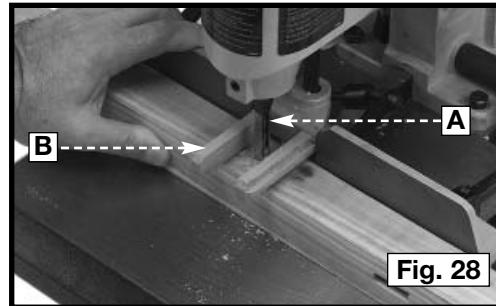

Fig. 28
2. Fig. 28 illustrates a typical mortising operation. Note that the opening (A) in the chisel is to the right. Move your workpiece from left to right for subsequent cuts to allow chips to escape freely.
3. Hold the workpiece firmly against the fence. Ensure that the hold-down (B) Fig. 28 is properly adjusted. The rate of penetration of the chisel must be fast enough to prevent burning at the tip of the bit, but not too fast as to stall the motor. You may encounter smoke from the bit or the workpiece. The smoke created is a natural operating occurrence, caused by friction and the burning of resins. Bluing of the chisel after initial use is not indicative of a dull chisel, but rather is a combination of friction and built-up resin on the cutting face of the chisel. A dull chisel can be detected by the amount of excess force required to complete a cut.